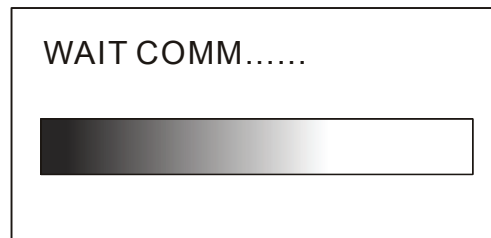

Figure 2-5
Step 2. Next, in the system main menu of TP series, choose “1. D/L AP TP04G ← PC”. Then, the words of “WAIT COMM.....” will display on the screen of TP series (Figure 2-5).